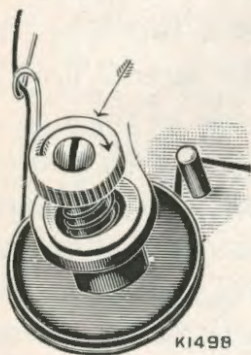

Fig. 12.
**A correct stitch can usually be obtained by varying the tension on the needle thread** (see Fig. 12).—To increase the tension, turn, in the